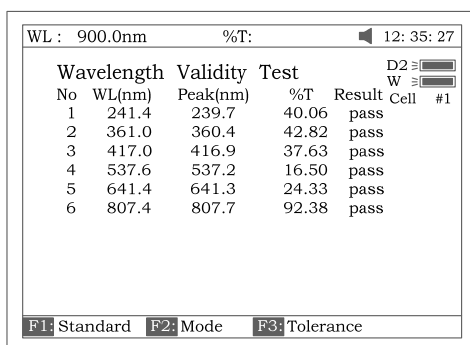

Fig 99
5. Put the sample (calibrated holmium liquid) into the light path. Press **[START]** to check. The results will be displayed on the screen (Fig 99). If the discrepancy between the results and the calibrated values is not more than the tolerance, “pass” will be displayed after the test results. Otherwise, “fail” will be displayed.